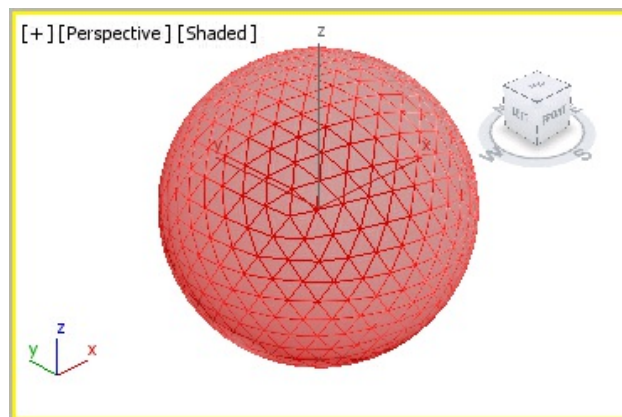

Figure 8-114 All polygons in the golf ball selected
5. Press the CTRL+A keys to select all the polygons of *golf ball*, as shown in Figure 8-114.